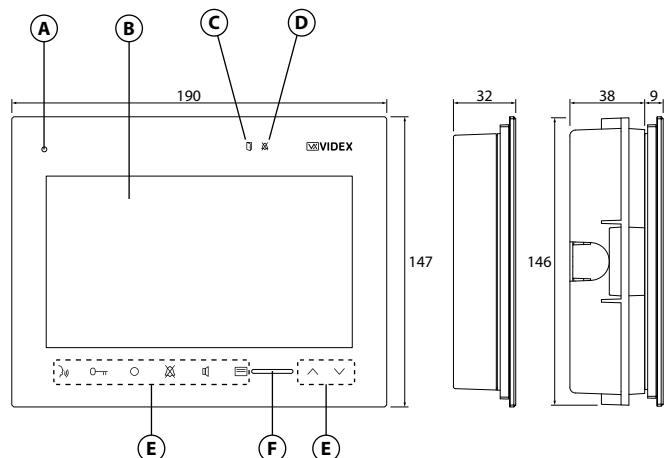
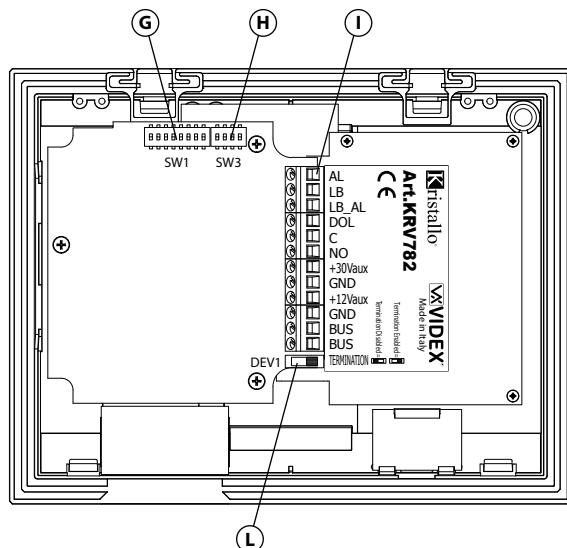

Fig. 1 Fronte
Fig. 2 Retro
1. To install the videophone, it is necessary to remove the back cover. Apply pressure to the two clips indicated by the grey arrows (**Fig. 1**) using fingers (**Fig. 2**) while lightly pulling the upper part in the direction of the white arrows (**Fig. 3**).